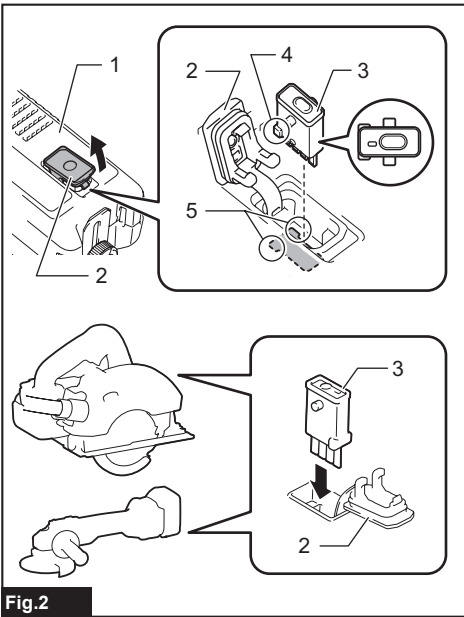

Fig.2
► **Fig.2:** 1. Adaptor 2. Lid 3. Wireless unit